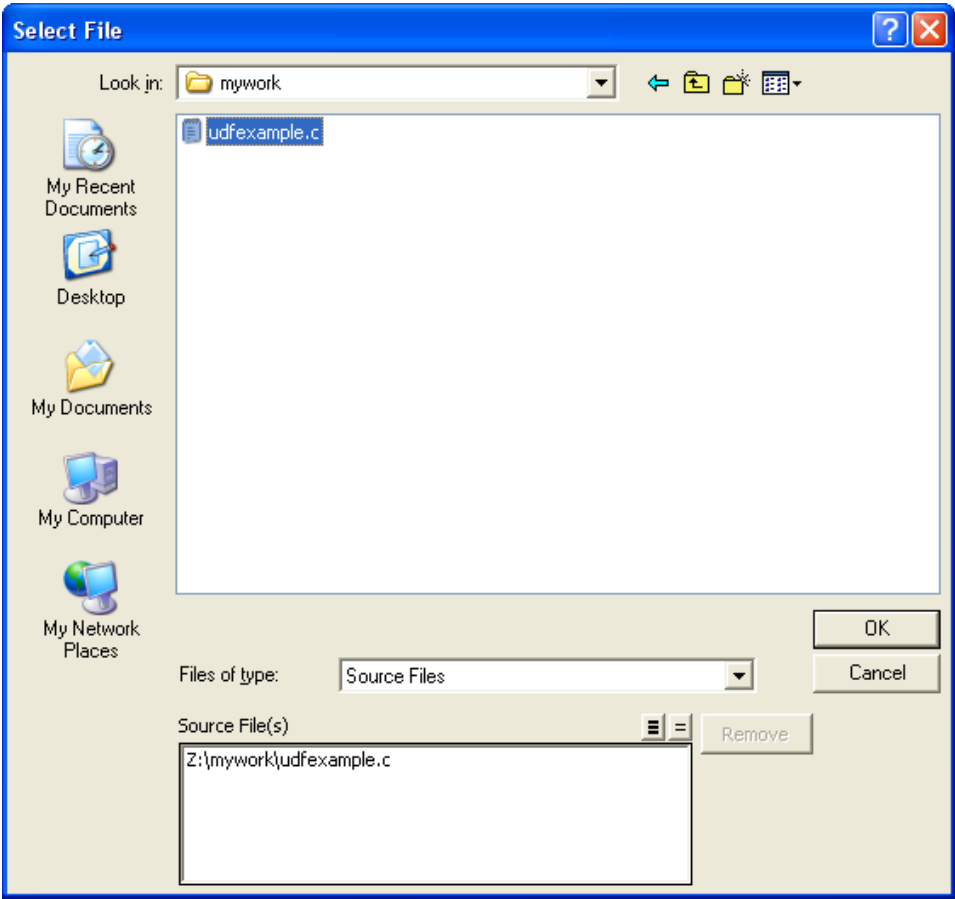

Figure 5.2.2: The Select File Panel
5. In the Compiled UDFs panel click on **Add...** under **Source Files** to select the UDF source file (or files) you want to compile. This will open the **Select File** panel (shown in Figure 5.2.2 for Linux/Unix systems).